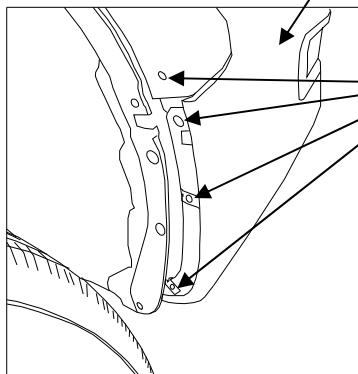

Figure 4.
- c. Remove screws (each side) from the plastic wheel well molding. See Figure 4.